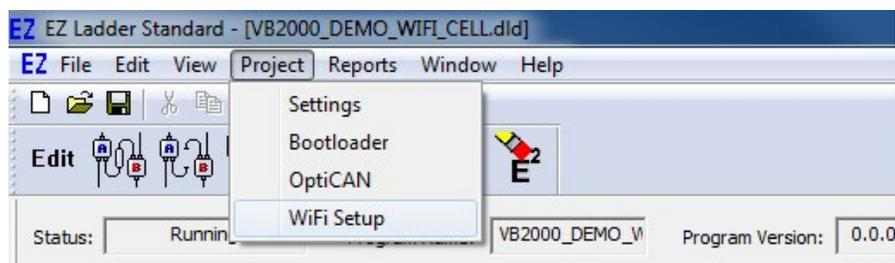

Figure 2-46 - Access WiFi Setup
4. From the menu at the top, select **PROJECT** then select **WiFi SETUP**. Refer to Figure 2-46.